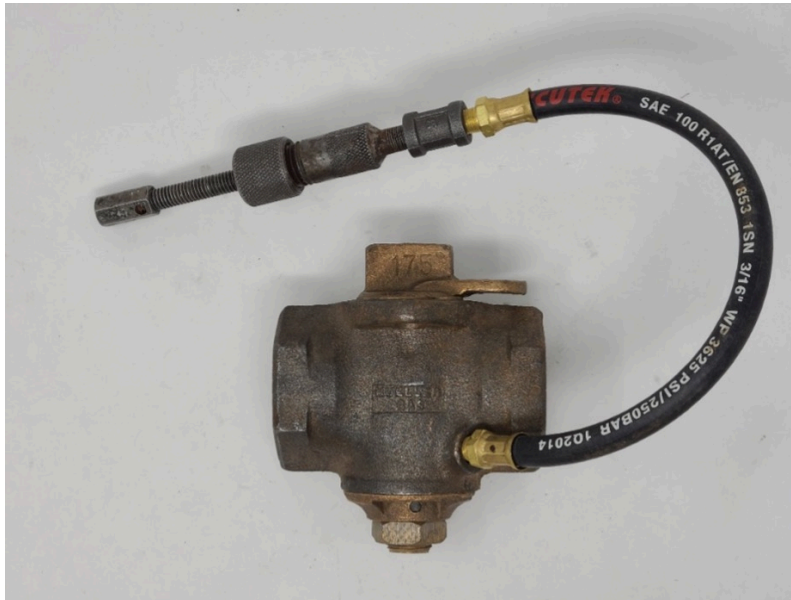

Figure 7. Sealant screw injection tool with hose extension
The screw injection tool shown in Figure 7 has had a hose added which makes it easier for the operator to use. Initially the hose will need to be purged with grease.
- Figure 7. “Sealant screw injection tool with hose extension” by Rod Lidstone is licensed under a CC BY-NC-SA licence.